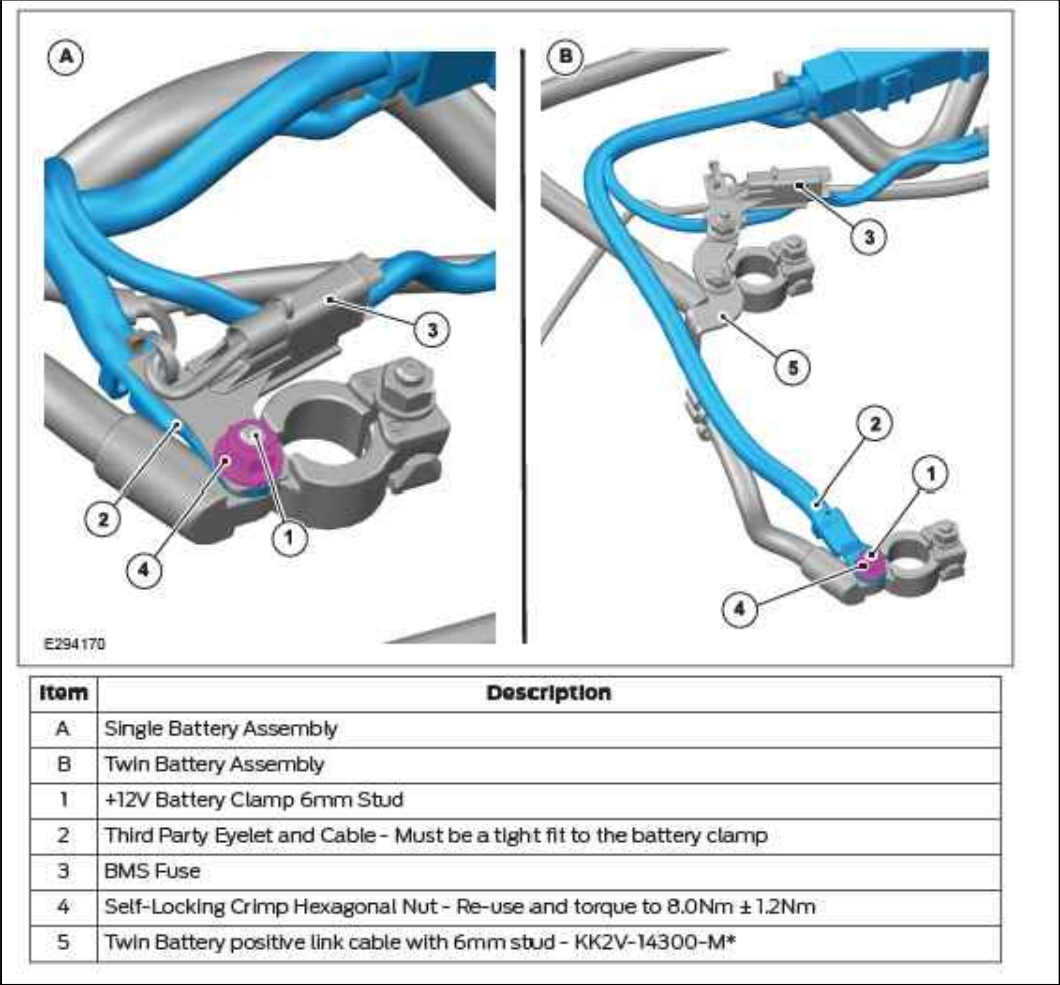

Figure 15: Battery diagram from 2020 Ford Transit Body and Equipment Mounting Manual (BEMM).
16. **Connect** the positive(+) lead to the M6 stud on the positive battery clamp. Reuse the M6 lock nut, when possible (Figure 15).